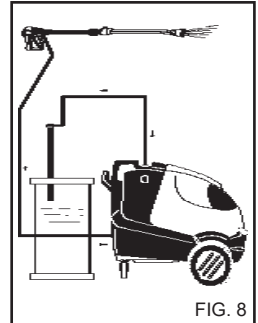

FIG. 8
- 3) After using with detergent, flush out the intake circuit; place the detergent suction hose (fig. 8) in a tank of clean water and let the pump run for 1 minute with the dosing tap turned fully on and the lance in detergent delivery condition.
4) After using with detergent, flush out the intake circuit; place the detergent suction hose (fig. 8) in a tank of clean water and let the pump run for 1 minute with the dosing tap turned fully on and the lance in detergent delivery condition.